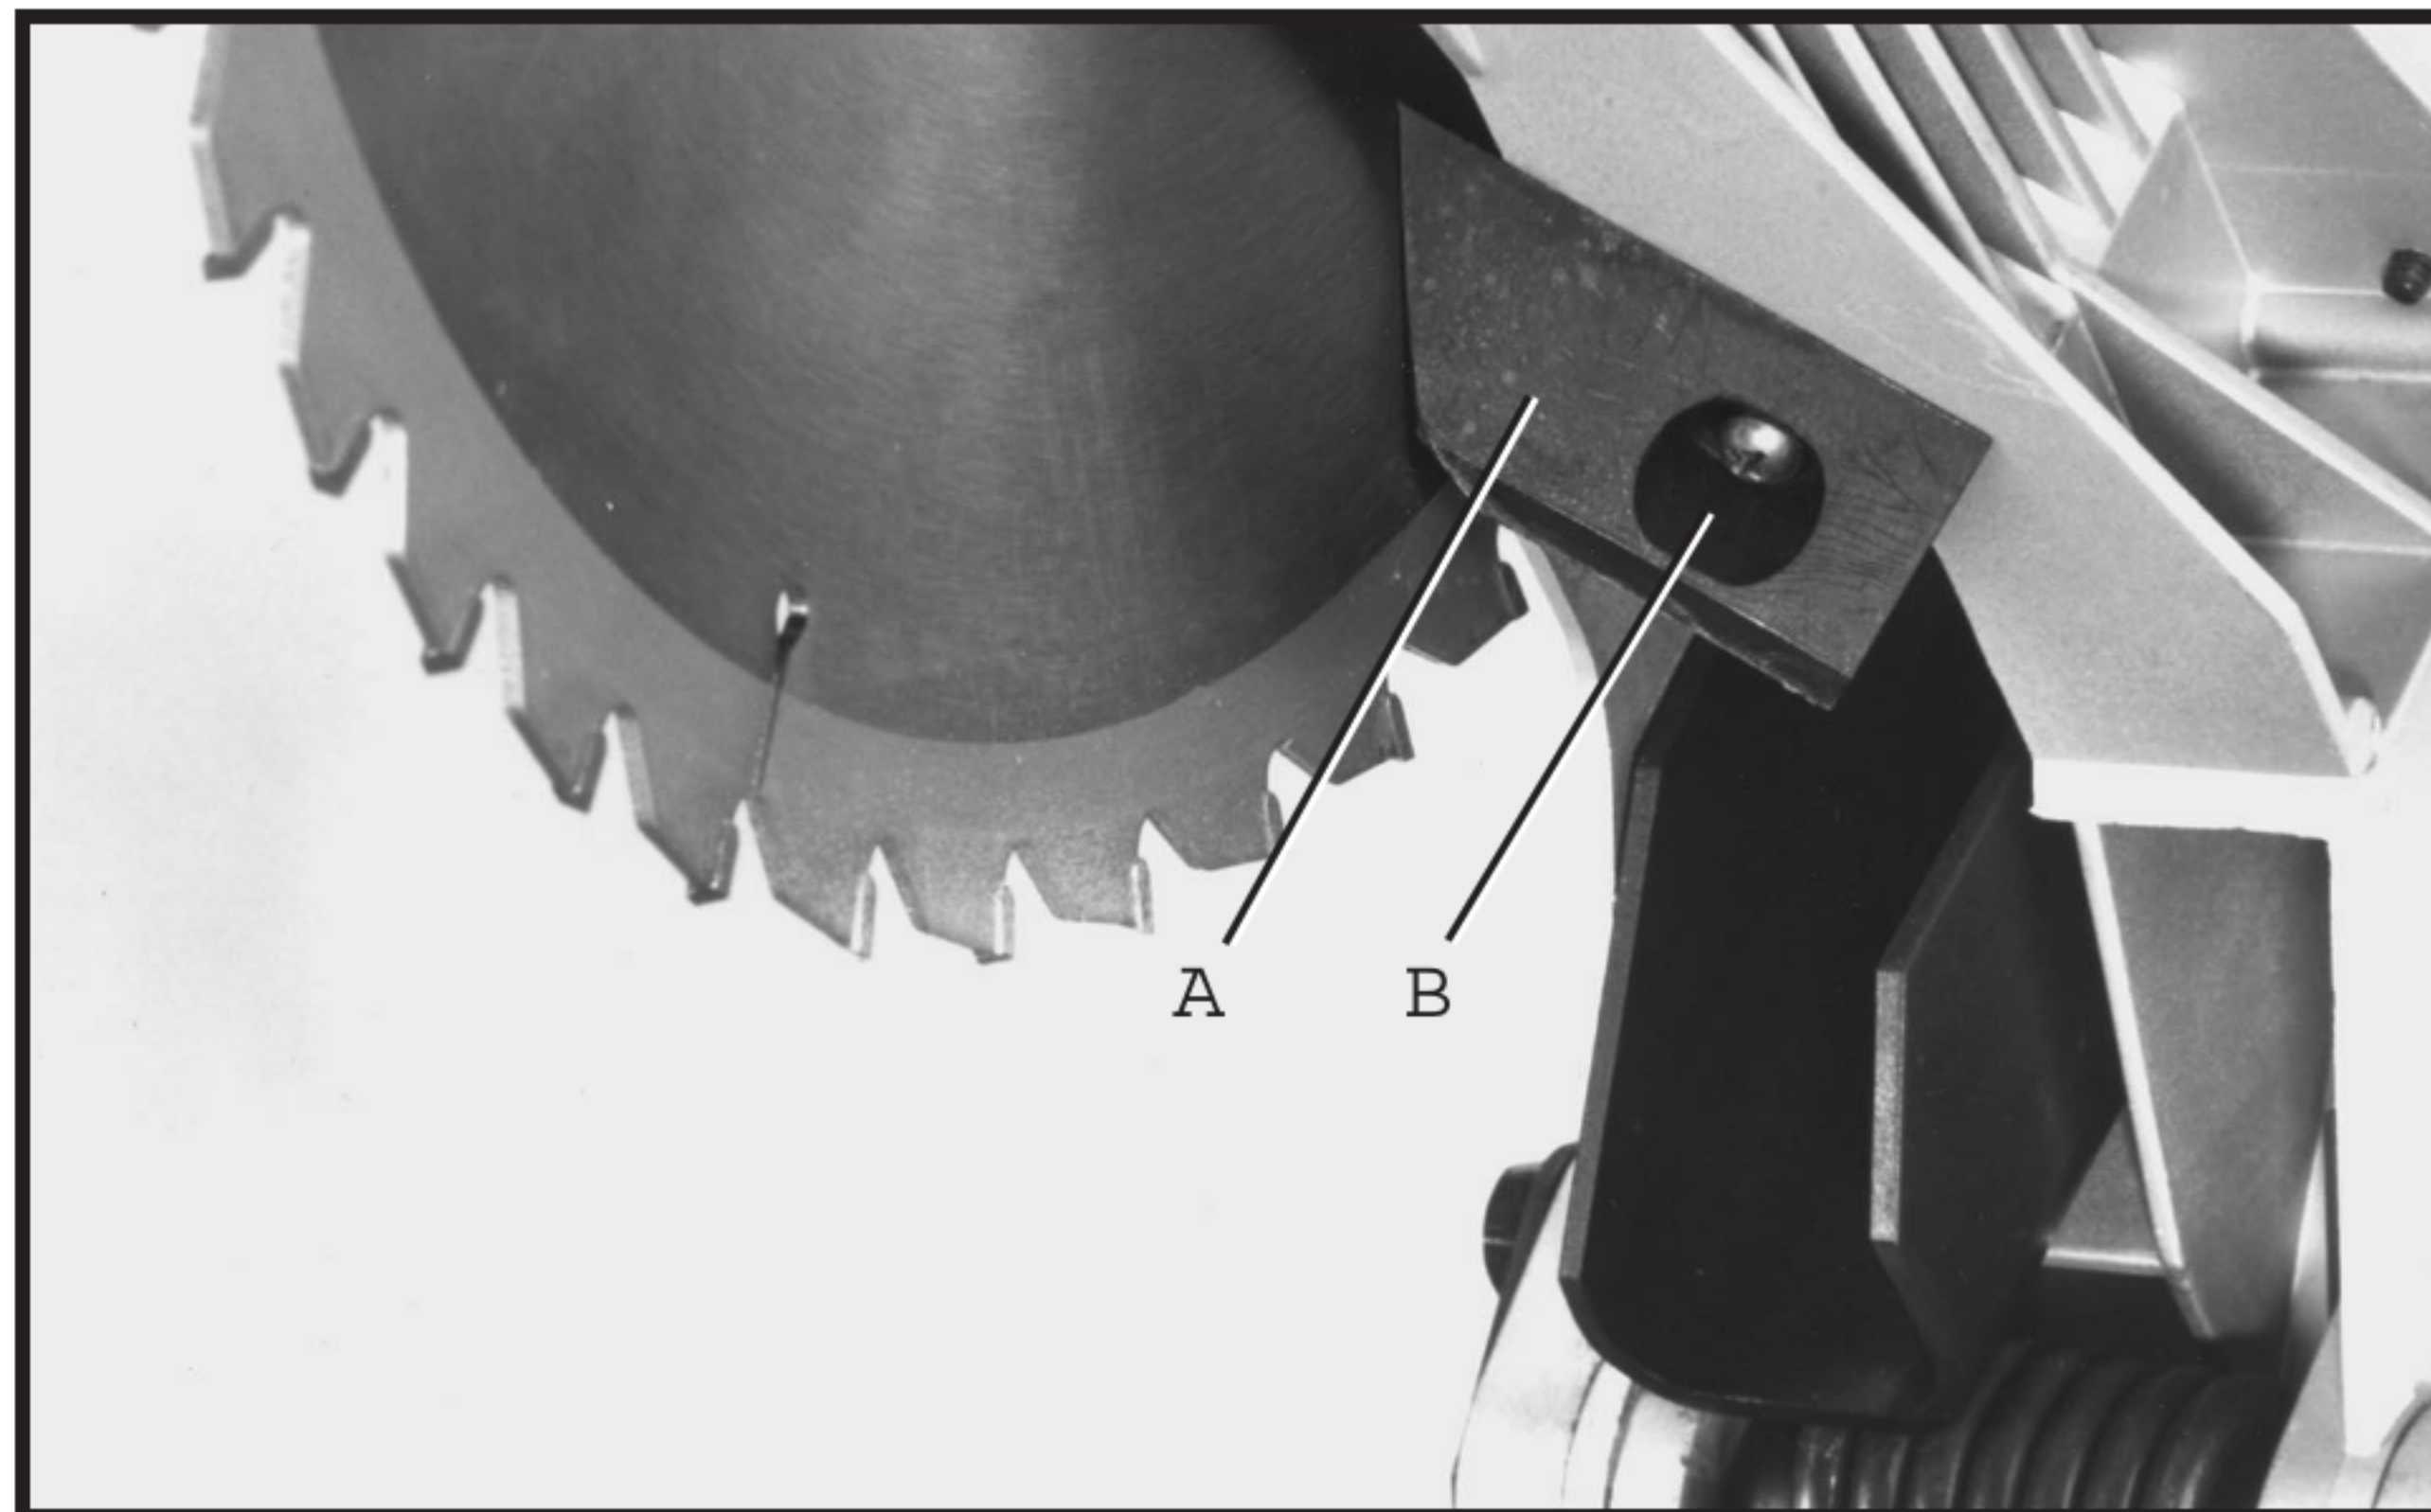

Fig. 29
2. A chip deflector (A) Fig. 29, is supplied to help prevent scrap or cut-off pieces from entering the upper blade guard. The chip deflector (A) should be adjusted so it is almost touching the side of the blade by loosening screw (B), adjusting chip deflector (A) and tightening screw (B).